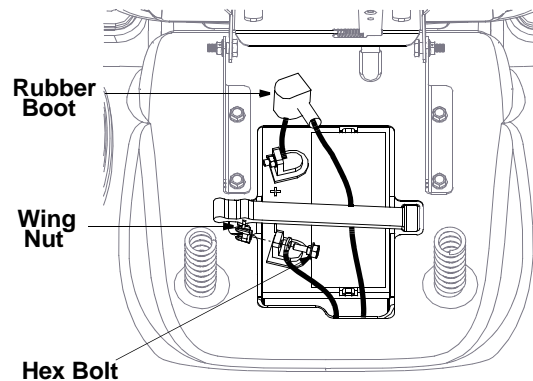

Figure 1
2. Remove the hex bolt and wing nut from the negative cable. See Figure 1.